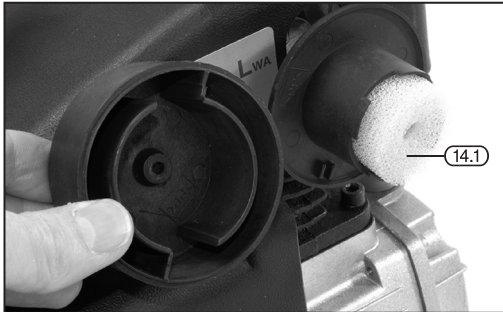

FIG. 7
9.1 BASIC MAINTENANCE AND CHECKS – FIG.7